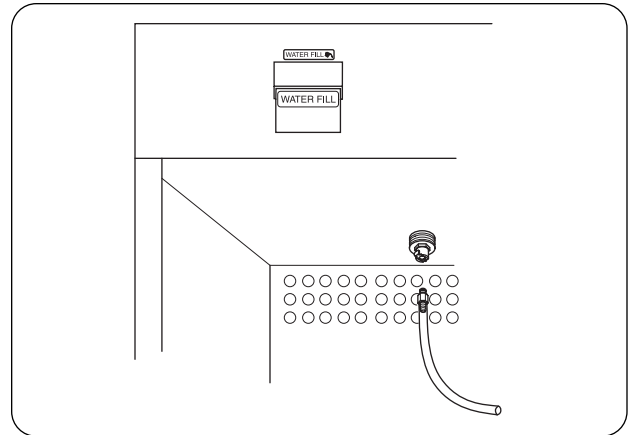

Figure 13. Draining Reservoir
1. Insert the drain hose fitting into the water outlet, located on the ceiling of the cabinet. Once the fitting is installed, water will begin to drain from the hose. (See Figure 13.)